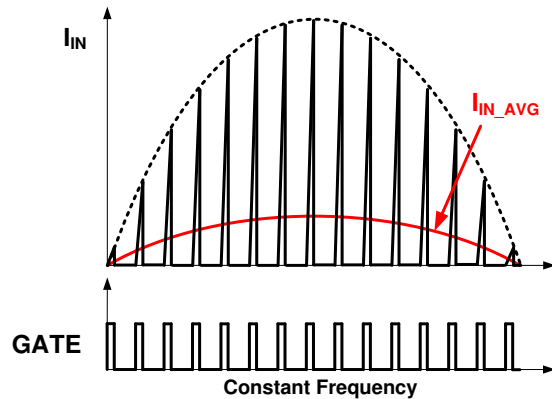

Figure 18. Input Current and Switching
In a conventional boost converter, Boundary Conduction Mode (BCM) is generally used to keep input current in phase with input voltage for Power Factor (PF) and Total Harmonic Distortion (THD). However, in flyback / buck boost topology, constant turn-on time and constant frequency in Discontinuous Conduction Mode (DCM) can implement high PF and low THD, as shown in Figure 18. Constant turn-on time is maintained by an internal error amplifier and a large external capacitor (typically >1 μF) at the COMI pin. Constant frequency and DCM operation are managed by linear frequency control.